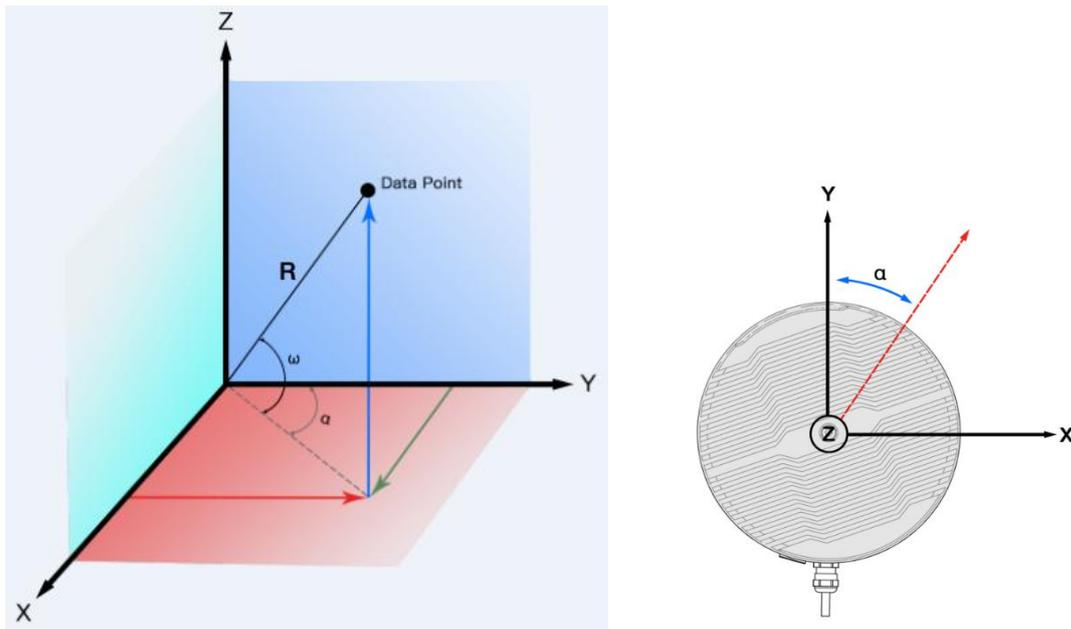

Figure 8. Coordinate system mapping between polar system and XYZ system.
*Note: the  $0^\circ$  axis of azimuth is co-axis and same positive direction with the Y axis in Figure 8.*
In data packet including the measured azimuth and distance, in order to calculating the point cloud, the coordinate in polar coordinate system should be transferred to the 3D XYZ coordinate in Cartesian Coordinate System, as shown in figure 8. The function of how to transfer the information is as shown below:
*The ROS-X axis is co-axis with the Y-axis and with same direction as Figure 8.*
*The ROS-Y axis is co-axis with the X-axis but the positive direction is reverse as Figure 8.*